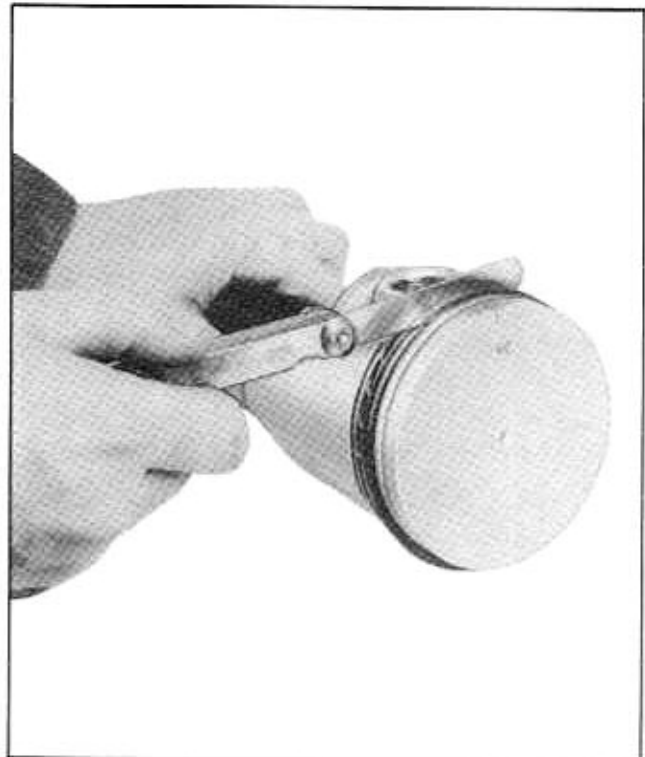

Fig. 6-69 Measuring Side Clearance of Ring in Groove
5. Measure side clearance of rings in ring groove (Fig. 6-69) as each ring is installed. Clearance with new pistons and rings should be as follows: